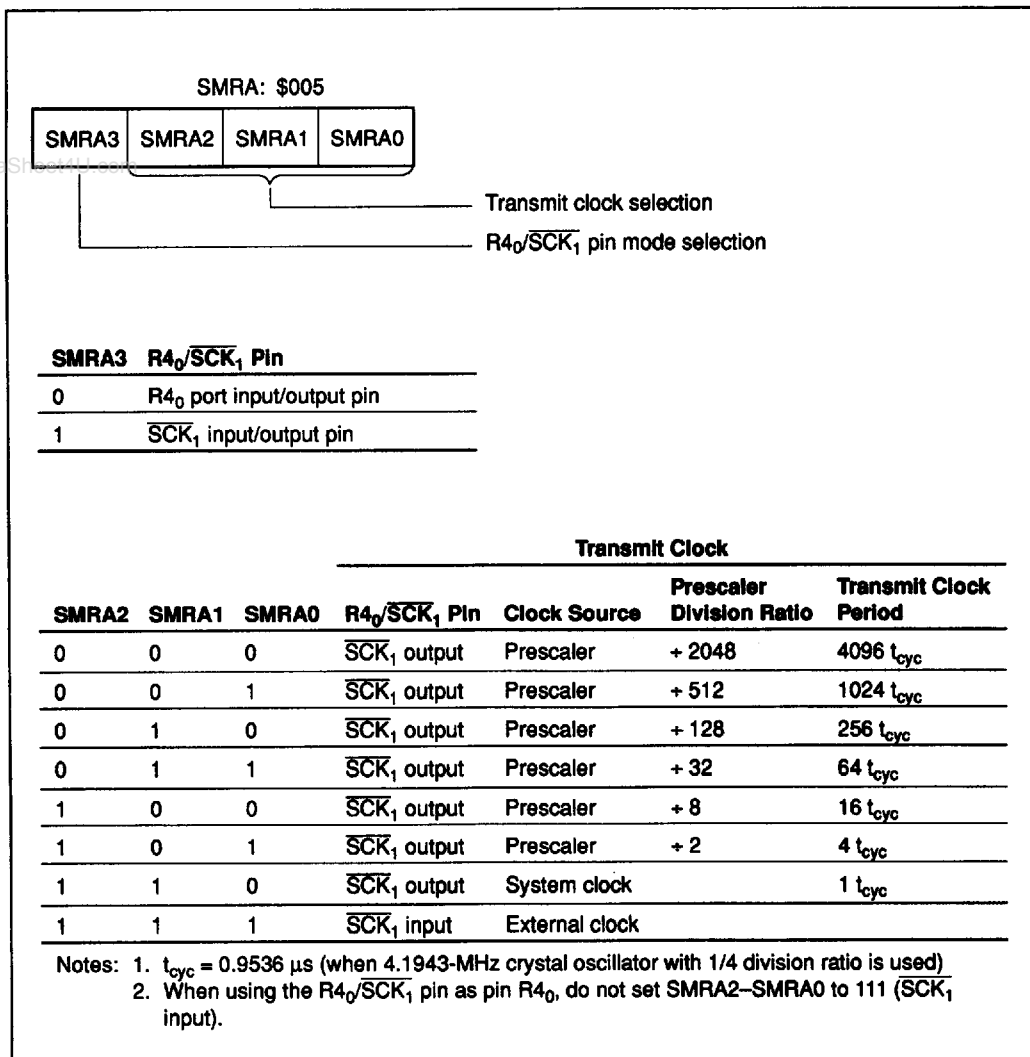

Figure 33 Serial Mode Register A
**Serial Mode Register A (SMRA: \$005):** Four-bit write-only register which controls the  $R4_0/\overline{SCK}_1$  pin, transmit clock, and prescaler division ratio for serial interface 1 as shown in figure 33. Writing to SMRA initializes serial interface 1.